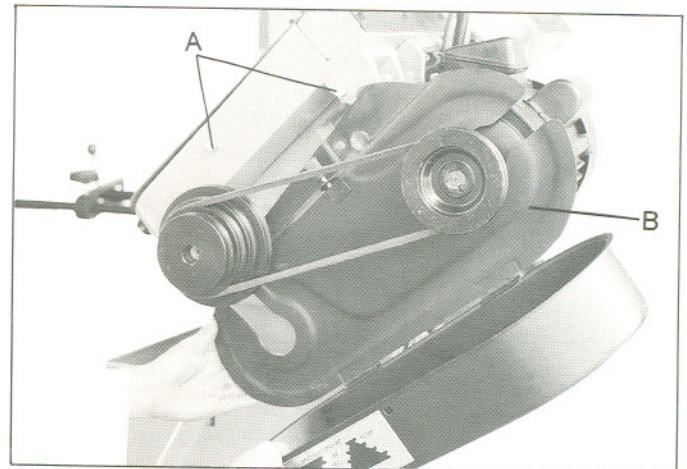

Fig. 3
8. (A, Fig. 3) from the right side of the saw arm.
9. Slide belt cover (B, Fig. 3) around pulley shafts and attach to saw with two hex cap bolts and two washers.